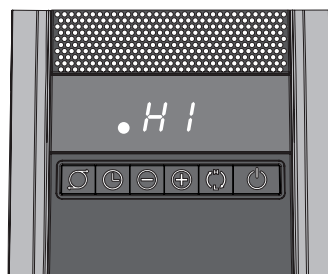

Figure 1
6. Upon turning the Heater on, the unit will be in HIGH heat (1500 Watts). (Figure 1)